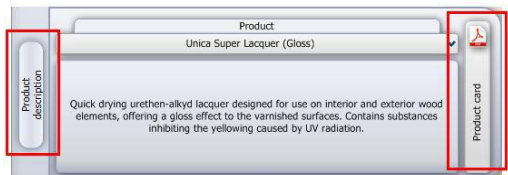

Fig. 238 – Product description pane
- The colour will be added to the palette and will be displayed in a form of a square (Fig. 238);
The second of the side collapsible panes – **Product description** – is responsible for providing the User with the short product characteristic. It opens after left-clicking on the button **Product description**. In the upper part of the pane the name of the product is shown. The User can manually change the displayed product to another from the same group, for example to compare them. This pane also enables the User to gain access to detailed technical product specifications in PDF format, available online at Tikkurila's website. The access can be gained after left-clicking the button **Product Card**  (Fig. 238).